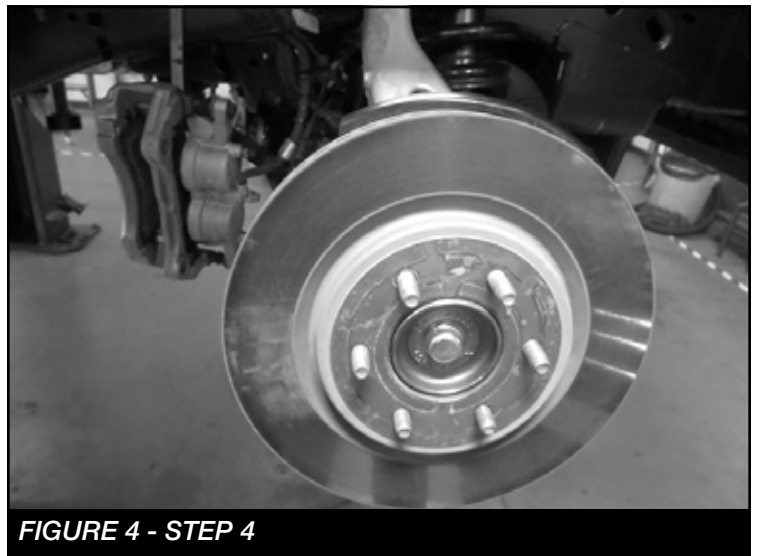

FIGURE 4 - STEP 4
4. Disconnect the brake caliper from the knuckle then remove from the rotor. Save hardware. Secure the caliper to the vehicle. Do not allow it to hang freely, this will cause damage to the brake lines. **SEE FIGURE 4**